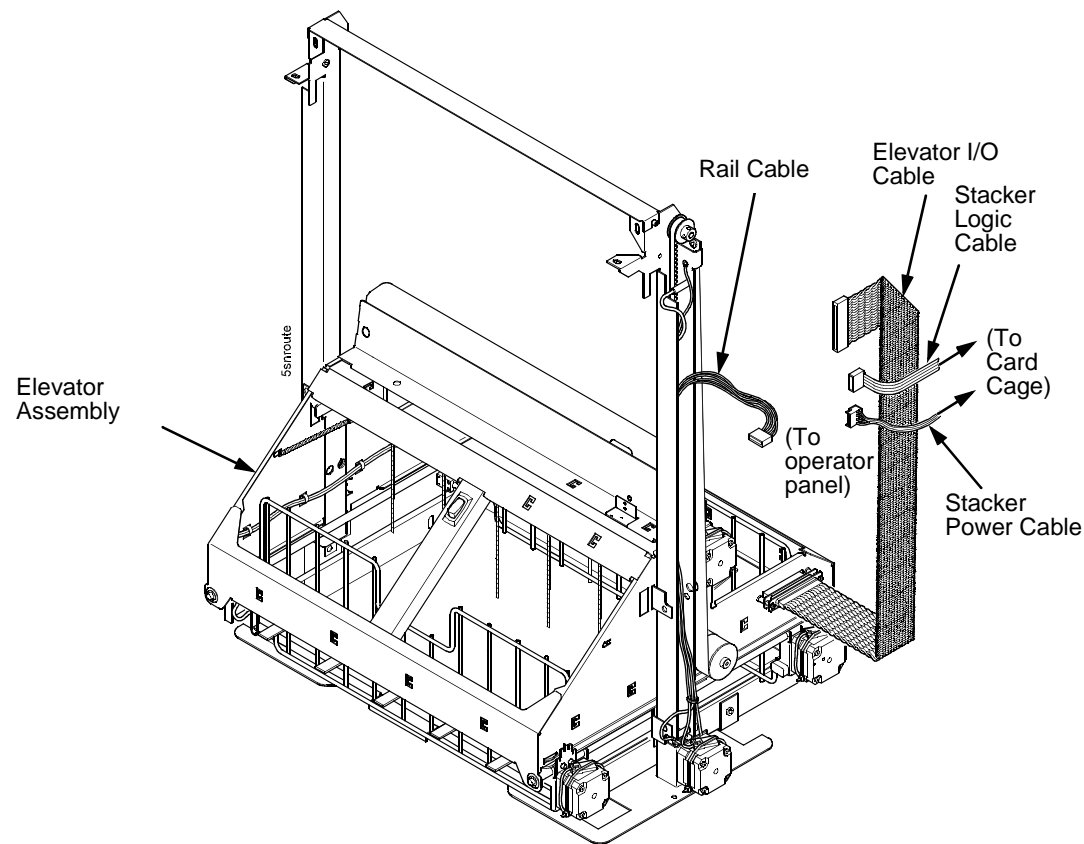

Figure 90. This figure shows how to route the stacker cables from the elevator and frame rail to the card cage.
20. Gather the stacker rail cable, elevator I/O cable, logic cable, and power cable. Route the cables outboard of the elevator assembly. (Figure 90.)